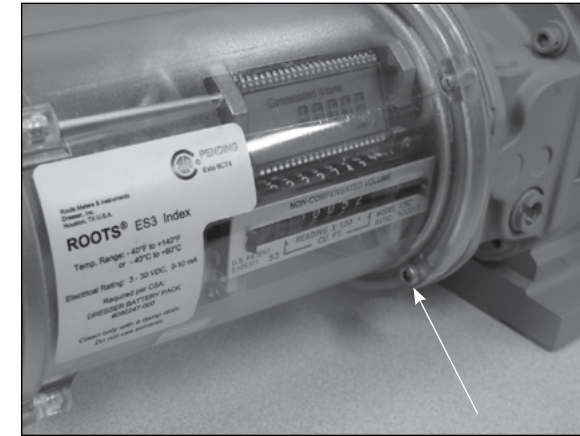

Figure 10.27 - Insert the 3/4-inch (short) screw
- A. Insert one 3/4-inch (short) screw on the unit below the odometer, and tighten with the 5/32-inch hex wrench just enough to hold the unit temporarily as shown in Figure 10.27. Do not fully tighten at this point.